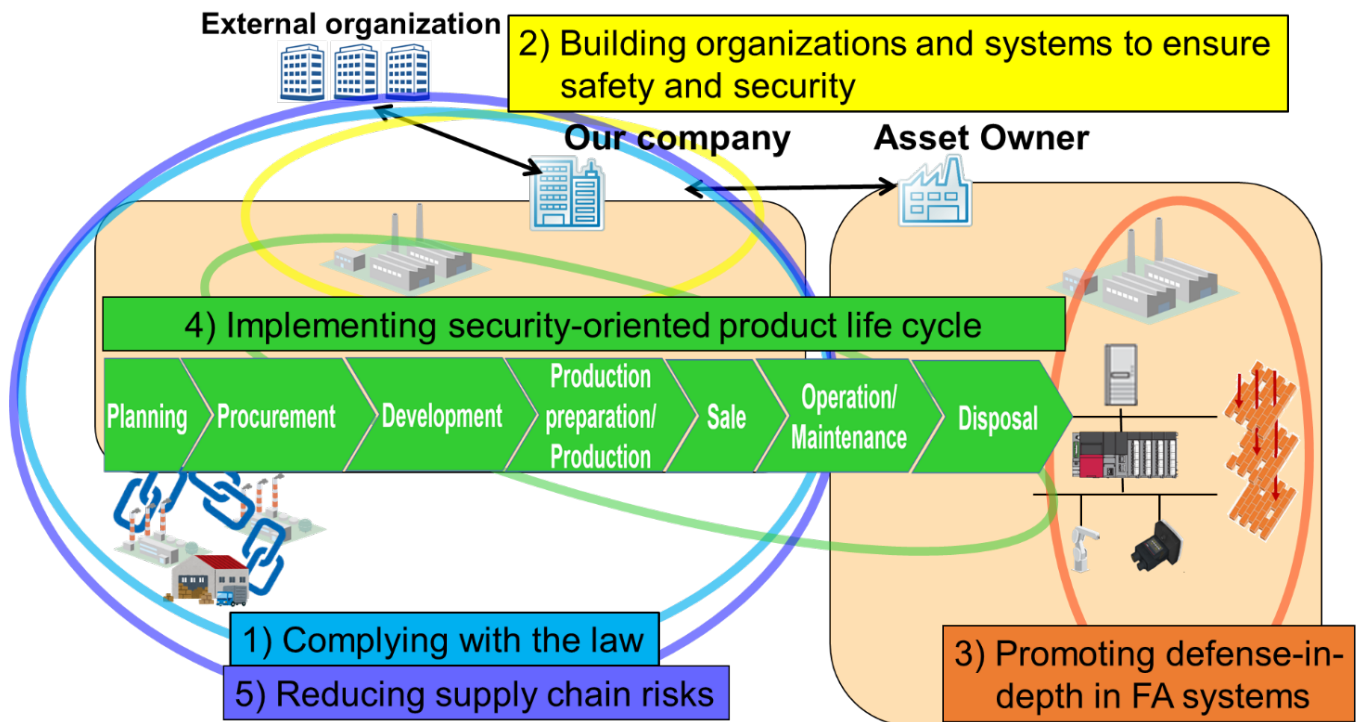

Figure 3 Approaches for "Enhancement of FA Cyber Security" related to our FA products
From our point of view, to realize "Enhancement of FA Cyber Security" for safe and secure FA systems, it is necessary to not only implement cyber security measures to the FA products, but also to take a comprehensive that includes points (1) to (5) including the Asset Owner's FA system and supply chain (Figure 3).